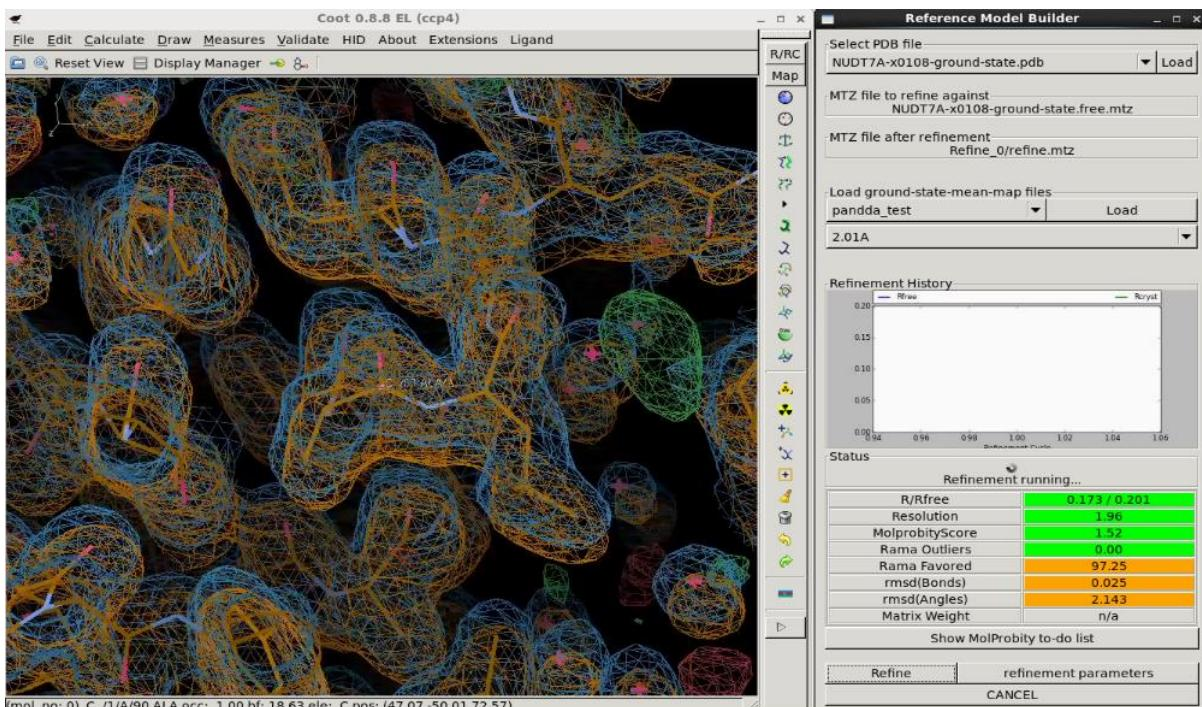

Figure 29. COOT interface during refinement. Note the little spinner in the middle of the panel which indicates that the refinement is still running.
- The modified model will be refined on the DLS cluster. A spinner will appear in the refinement panel and it will spin until the refinement is finished (see Figure 29). You cannot launch another refinement job while the current refinement is not finished.